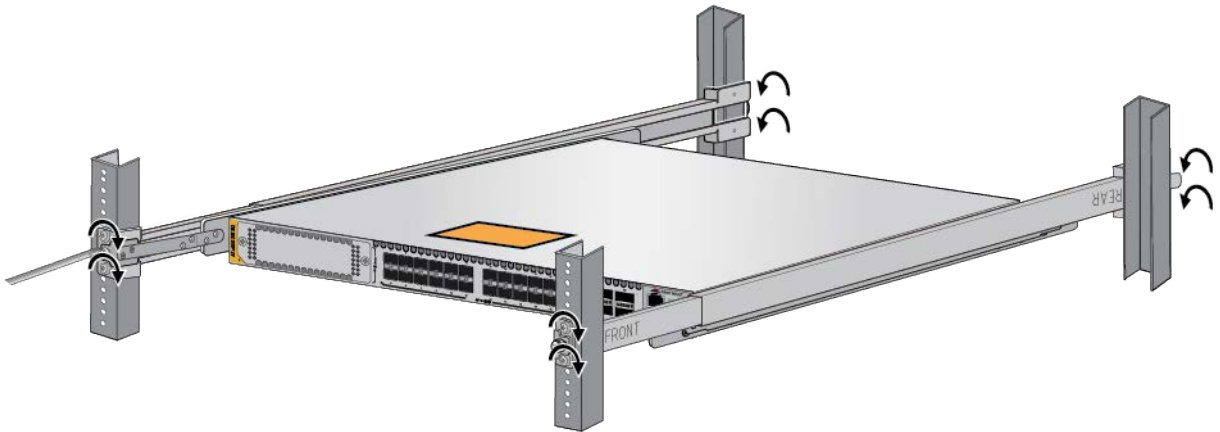

Figure 122. Tightening the Screws on the Outer Rails
5. Finish tightening the eight screws on the outer rails to secure the rails to the equipment rack. See Figure 122.